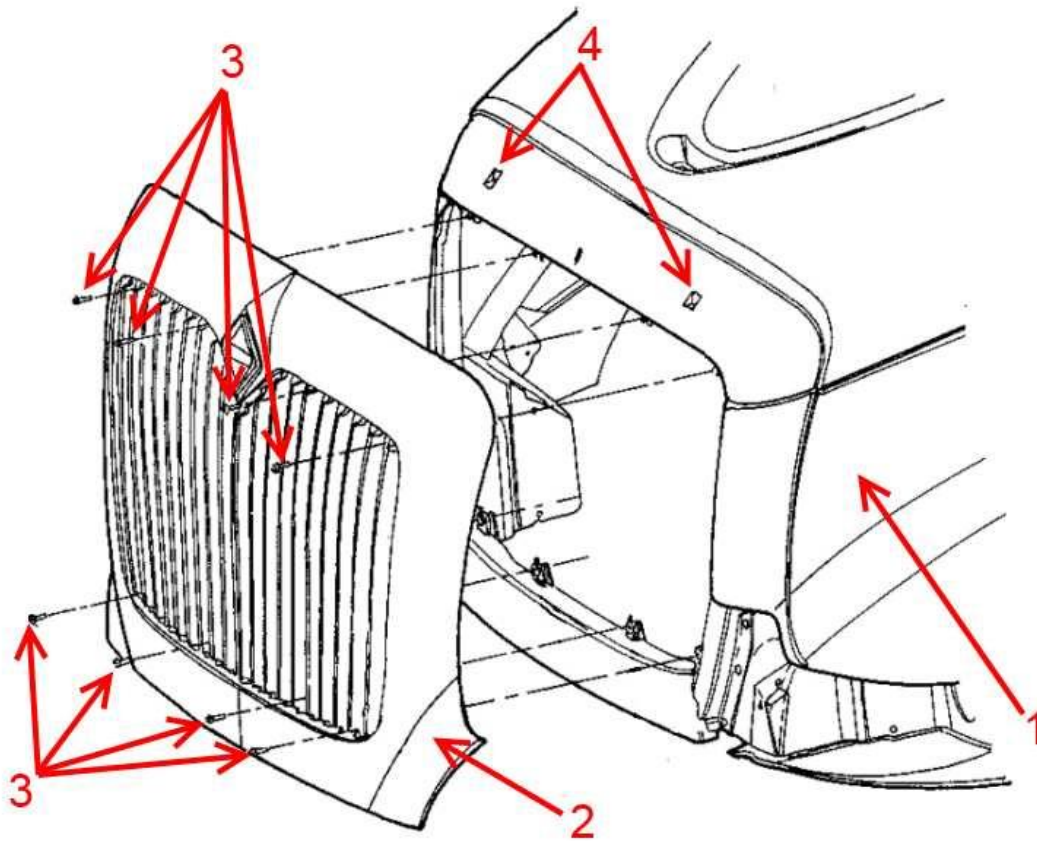

Figure 2: Front Grille Assembly
3. With the hood closed, remove the eight grille mounting screws (**Figure 2**, Item 3). Follow TSI 13-09-01R instructions for grille removal/install (instructions 3a-3e): ***NEW SECTION***
- b. Open the hood and apply heat to underside of hood for 3-4 minutes. Make certain that the heat is applied where the hood overlaps with the top of the grille. Too much heat will discolor the hood and/or grille. Keep the heat gun moving. Tape is positioned ~1" above push tabs (**Figure 2**, Item 4)